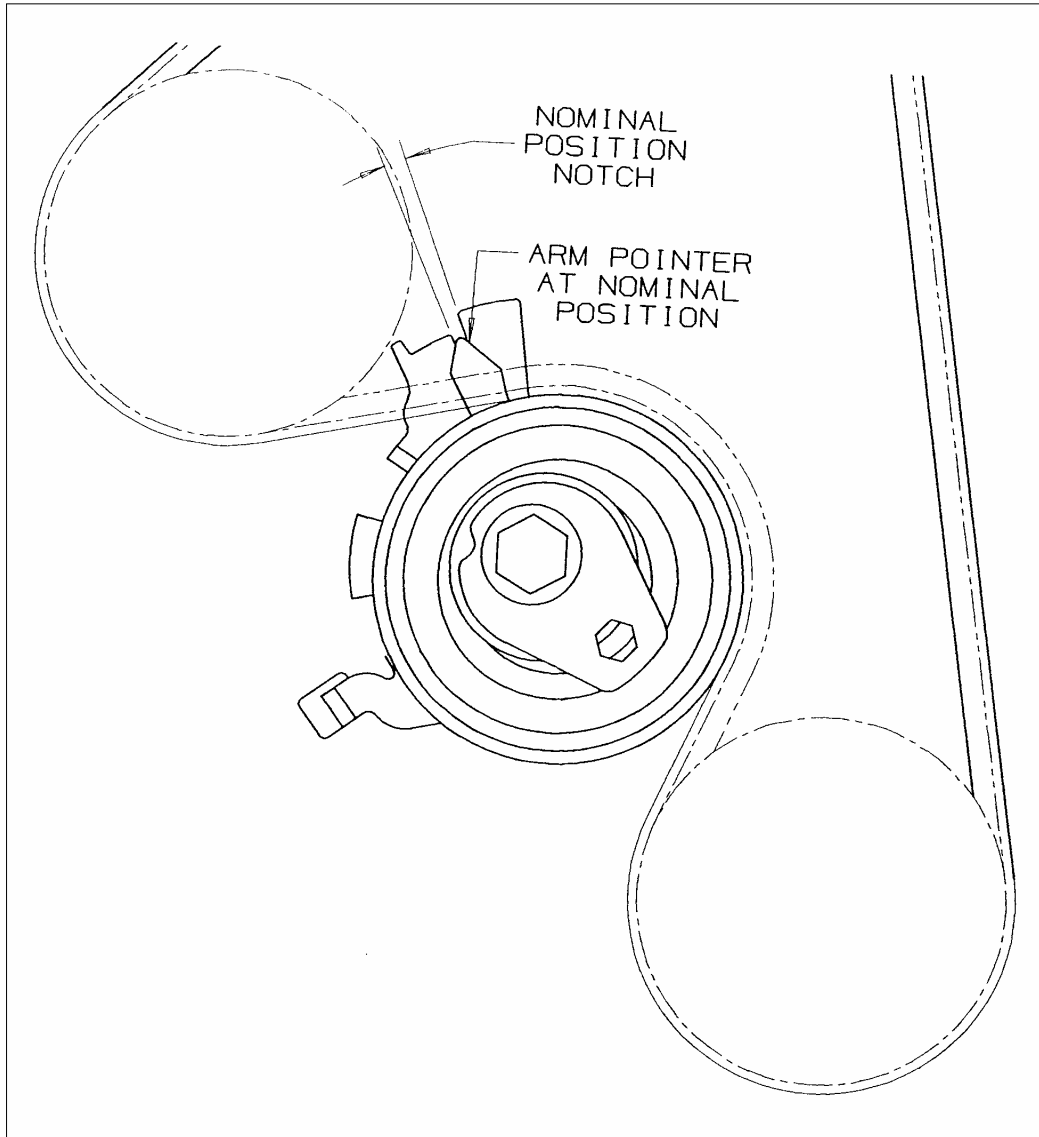

Figure 5: Verification of the alignment of the Tensioner's Arm pointer with the nominal position notch
- If the Arm Pointer aligns with the Nominal Position Notch, the installation is complete (See Figure 5).
13. Rotate the Installation Shaft with the Hex Key until the Arm Pointer aligns with the Nominal Position Notch (See Figure 5).